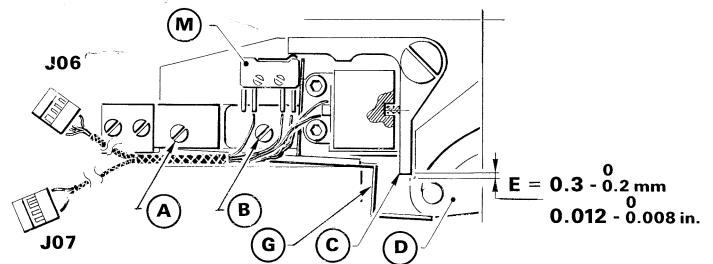

Figure 5.3
Unscrew the two screws A and B. Figure 5.3.
- Loosen screws A and B and displace the door safety latch assembly so as to obtain an air gap E. (See Figure 5.3).
- Displace the leaf spring G so as to obtain the microswitch (M) switches OFF with a safety margin.